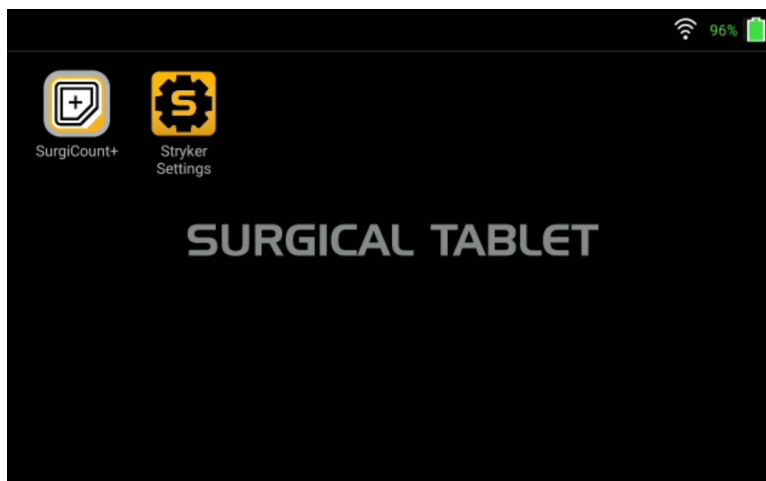

Figure 1 – Home Screen
4. Launch the SurgiCount+ Application by tapping the icon (Figure 1).